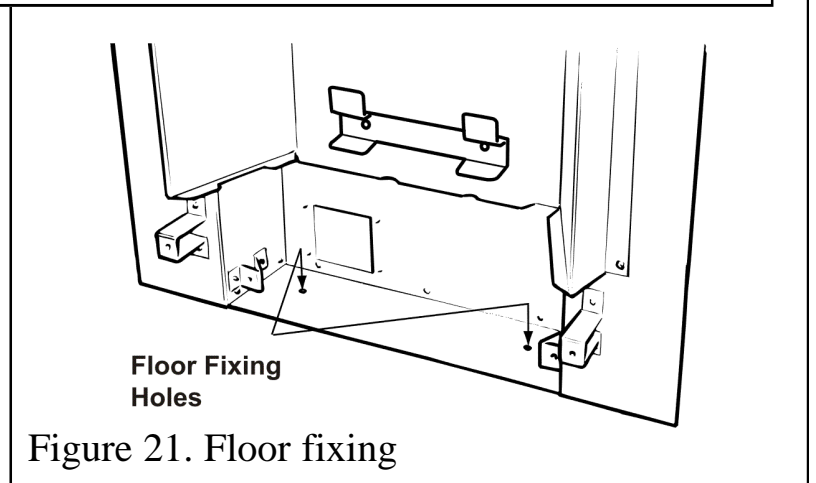

Figure 21. Floor fixing
10. Drill a hole into the fireplace floor through each of the two holes in the base of the convection box using a no.12 masonry drill (See figure 21).